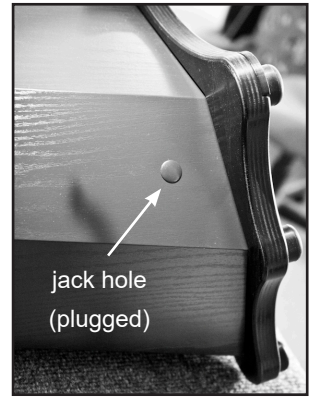

Figure 2 – Jack Hole
1. The jack hole has been pre-drilled in your Serrana, and all you need to do is locate the hole and remove the plastic plug. The hole is on the left-hand (lever side) faceted face of the harp body, down near the base (*see figure 2*).